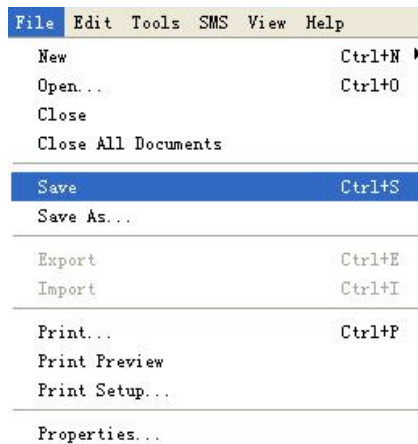

Fig. 7.10.8 Save File Menu
1. To save a Program, click option "save" or "Save As" under menu "File" with left button of the mouse, as shown in Fig.7.10.8, or click button " "under toolbar.